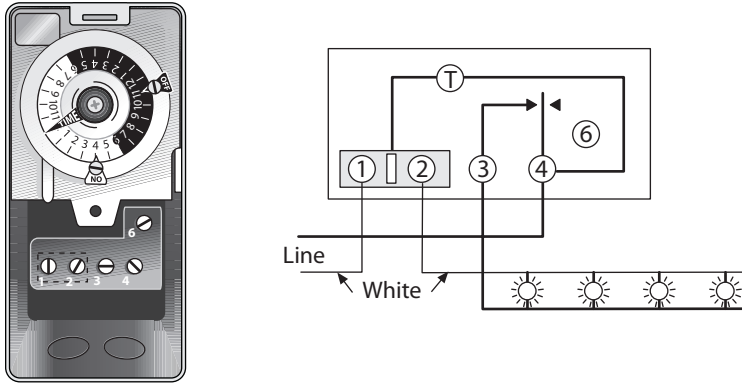

Fig. 31-3 Automatic time switches are convenient for controlling show-window lighting.
Show-window lighting The *NEC* in 220.14(G) and 220.43(A) requires an allowance of at least 200 watts for every linear foot of show window, measured horizontally at the base. For better stores, this is not enough. Usually numerous Type R or PAR lamps are very effective. For an effective merchandise display, the installation must be made so the light source can't be seen from the street. The show-window lights can be controlled manually, but it is better to install a time switch of the general type shown in Fig. 31-3, which automatically turns the lights on and off at preset times. The particular switch shown has a "Sunday